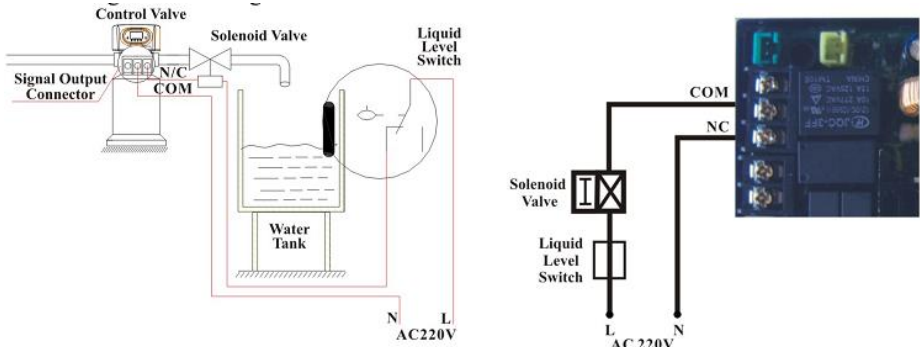

Figure3-1 Wring of Solenoid Valve on Outlet
① Solenoid valve on outlet controls water level in brine tank. Instruction: If system strictly require no hard water flow from outlet in regeneration cycle(Mainly for no hard water flow out when valve is switching or valve in backwash or brine drawing positions), a solenoid valve could be installed on outlet, the wiring refers to Figure 3-1.